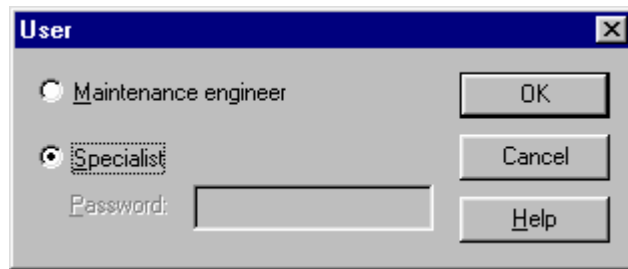

Figure 2.8 - Simatic PDM Access Rights
- 3- After selecting the correct device, a window with maintenance or specialist access will appear. See Figure 2.8. If the user is a maintenance engineer, he can only make changes necessary for operation and maintenance. However, if he is a specialist, he can have full access. This can be protected by a password: